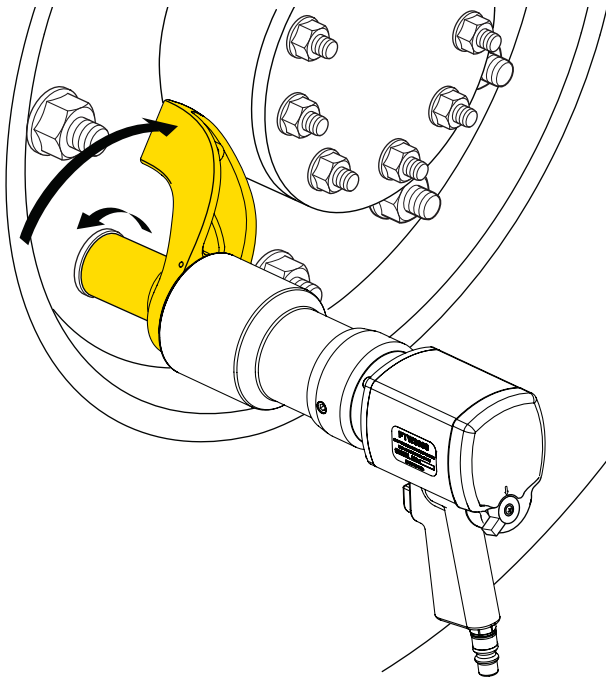

Fig. 9
10. Fig. 9 shows the position for the reaction arm when the square drive rotates counterclockwise.
12. To loosen a fastener (or to apply torque in the counterclockwise direction): Be sure that the adjustment lever is set to the “R” position and that the reaction arm is positioned as shown in Fig. 9. Then, fully depress the trigger and keep it depressed until the fastener loosens.